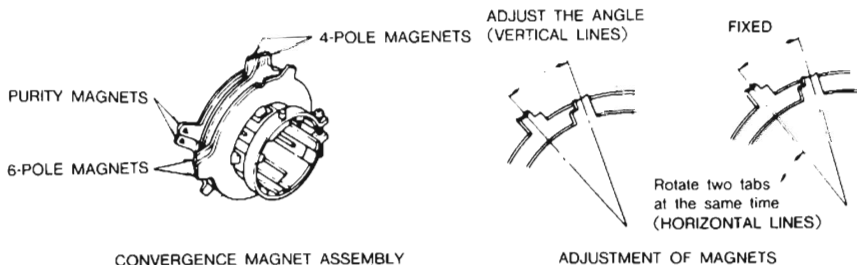

Figure 9
6. Rotate and spread the tabs of the purity magnet (See figure 9) around the neck of the picture tube until the green belt is in the center of the screen. At the same time, center the raster vertically.
3. Adjust two tabs of the 4-pole magnets to change the angle between them (See figure 9) and superimpose the red and blue vertical lines in the center area of the picture screen. (See figure 9.)